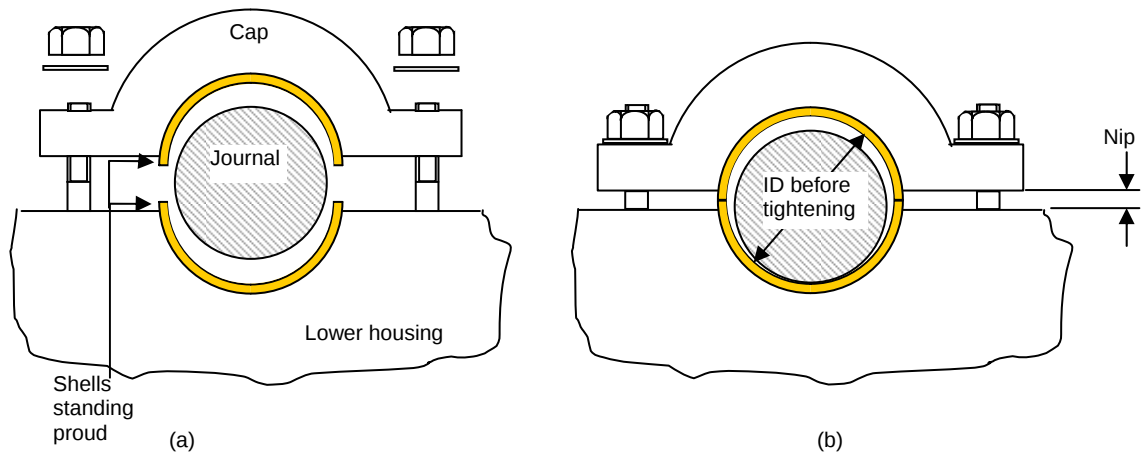

Figure 4.19: Split-bearing Nip
Before assembly, the shells are fitted into the lower housing and cap as shown in **Figure 4.19(a)**.
The cap is assembled onto the lower housing and the nuts finger tightened. When the shells touch there is still a gap between the cap and the housing. This gap is called the *nip*, shown in **Figure 4.19(b)**.
- The narrower strip in **Figure 4.19(a)** shows that the bearing clearance is 0.003in or three thou.
- The wider strip in **Figure 4.19(b)** shows that the bearing clearance is 0.001in or one thou.